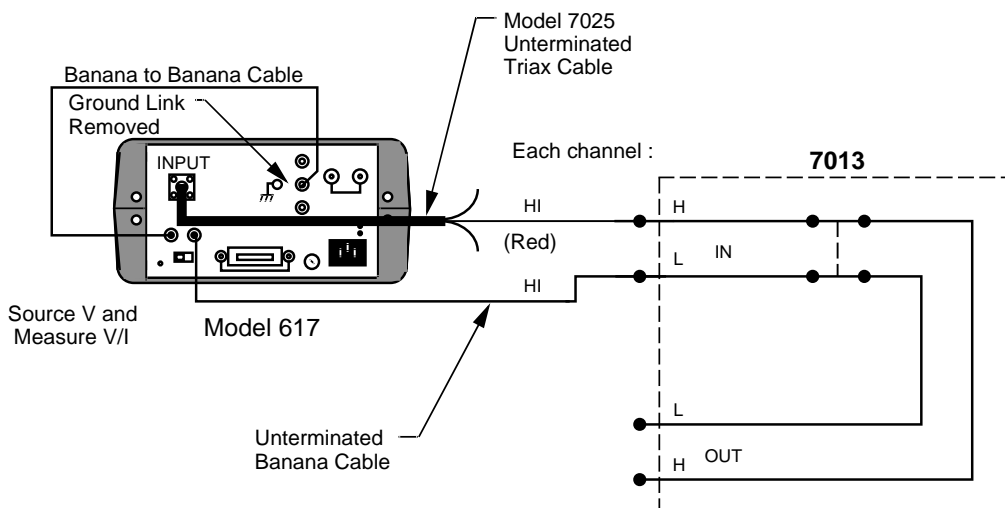

Figure 5-5
Refer to Figure 5-5 and perform the following steps to test differential isolation.
2. Connect the Model 617 to Channel 1 as shown in Figure 5-5. Make sure the voltage source is in standby.